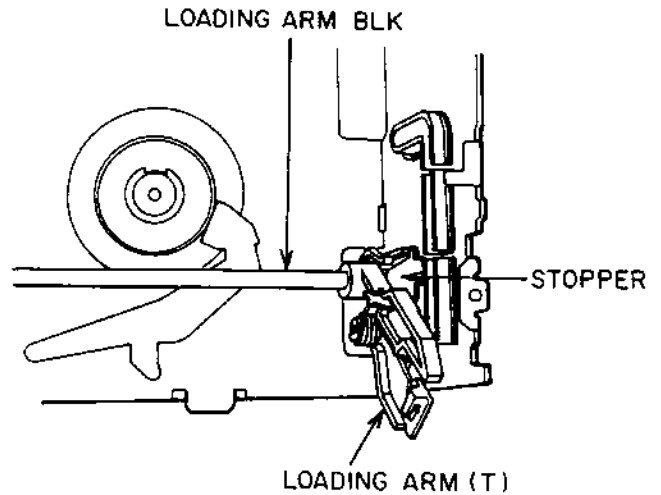

Fig. 4-2
- 1) Release the stopper on the right side end of the LOADING ARM BLK's shaft (Refer Fig.4-2) by pressing the stopper tab with a flat head (→) screwdriver. Then remove the shaft's right end from the bracket.